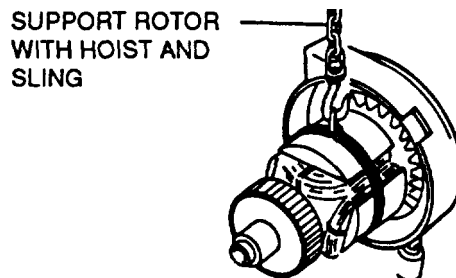
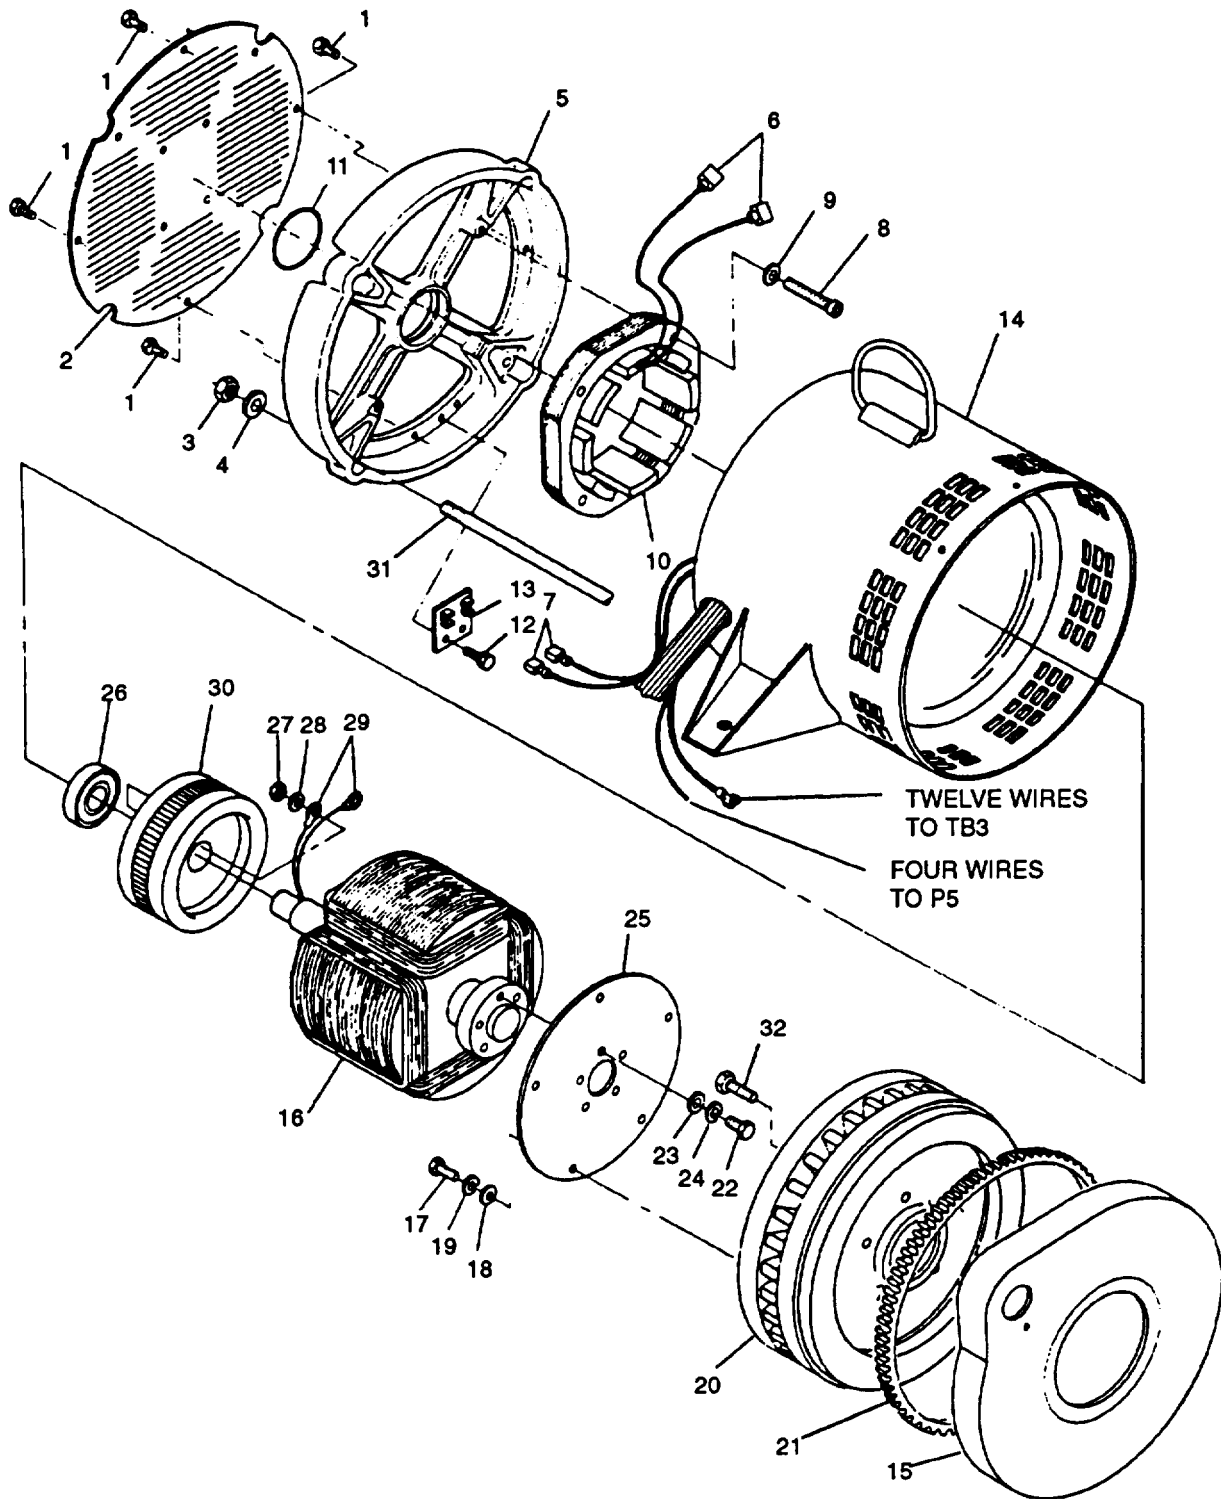

FIGURE 4-23. Support of Rotor Assembly
FIGURE 4-24. Generator Assembly (MEP-803A)
- e. Remove bolts (1, FIGURE 4-24) and end bell cover (2).
- f. Remove nuts (3), washers (4), and end bell (5).
- g. Tag and disconnect exciter stator leads (6) and AC voltage regulator leads (7) from terminal block (13) in end bell (5).
- h. Remove bolts (8), washers (9), brushless exciter stator (10), and packing (11) from end bell (5).
- i. Remove bolts (12) and terminal board (13) from end bell (5).
- j. Using lifting device attached to stator (14) lifting point, carefully pry loose (screwdriver slots provided), and remove stator (14) from engine/generator adapter (15).
- k. Use rope sling to support rotor (16), refer to FIGURE 4-23.
- a. Inspect end bell assembly (5, FIGURE 4-24) for cracks, tom packing (11), broken terminal board (13), and other damage.
- b. Inspect exciter stator (10) for broken windings, evidence of overheating, damaged insulation, and loose terminal ends.
- c. Inspect bearing (26) for looseness and evidence of overheating.
- d. Inspect exciter rotor (30) for broken windings, evidence of overheating, damaged insulation, and other damage.
- e. Inspect rotorassembly(16) for broken windings, evidence of overheating, damaged insulation, and loose terminal ends.
- f. Inspect stator(14) for broken windings, evidence of overheating, damaged insulation, loose terminal ends, and darnaged housing.
- g. Inspect drive disc (25) for bends, cracks, elongated mounting holes, and other damage.
- h. Inspect flywheel/generator fan (20) for cracks, bent or broken fan blades, broken teeth, stripped threads, and other damage.
- a. If ring gear (21, FIGURE 4-24) is damaged, place the flywheel (20) on a solid surface.
- b. Drive ring bearing gear (21) off with a brass drift and hammer.
- b. Coat mating area between bearing (26, FIGURE 4-24) and end bell (5) with grease (Item 9, Appendix C).
- c. Install engine flywheel/generator fan (20) on engine crankshaft with bolts (32). Torque bolts (31) to 51 ft-lbs. (69 Nm).
- d. Install thru-bolts (31) in adapter (15).
- e. Press exciter rotor (30) on rotor assembly(16) to shoulder of shaft. Connect F1 + and F2- leads (29) on rotating rectifiers with nuts (27) and washers (28), and remove tags. Torque nuts (27) to 24 in-lbs (2.7 Nm).
- f. Press bearing (26) onto shaft of rotor assembly (16).
- g. Install drive disc (25) on rotor assembly(16) with lockwashers (24), washers (23), and bolts (22). Torque bolts (22) 48 to 53 ft-lbs (65 to 72 Nm).
- h. Using rope sling and lifting device (FIGURE 4-23), install rotor assembly (16) on engine flywheel/generator fan (20) with lockwashers (19), washers (18), and bolts (17). Torque bolts (17) 19 to 21 ft-lbs (26 to 28 Nm).